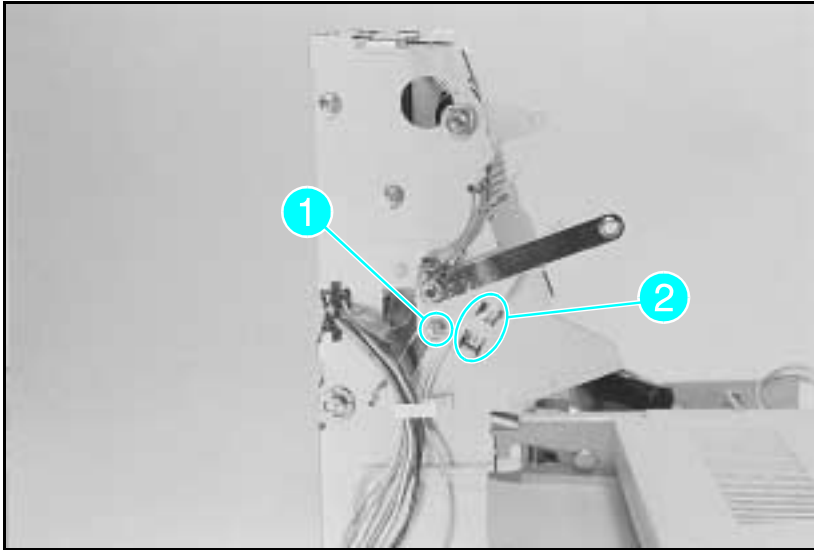

Figure A-13 Solenoid Arm
- 1** Remove the (1) screw below the Switchback Solenoid Arm on the gear side as shown in Figure A-13, callout 1.
- 2** Remove the sensor, squeezing the tabs on the underside of the sensor (see Figure A-13, callout 2).